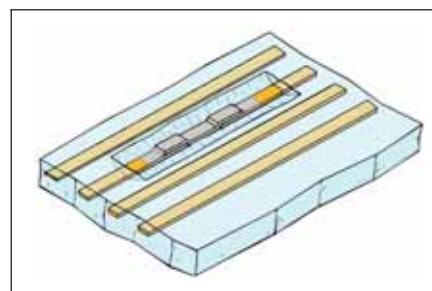

Figure 7 Replacement conductor soldered.
14. Position the replacement conductor and solder in place using very light pressure with the soldering iron tip. Follow along with a tool such as an orangewood stick, toothpick, or dental tool to hold the conductor down. (See Figure 7.)